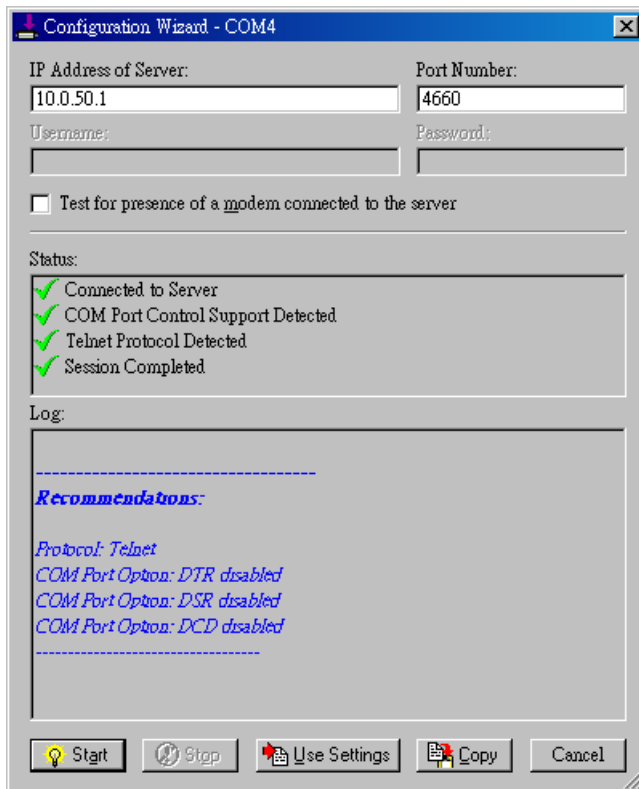

Fig. 39. Configuration Wizard
Serial/IP COM port can be changed as follows:(Fig. 39)
5. Click the **Configuration Wizard** button and then click the **Start** button that shall appear on the wizard window. This step verifies that the Virtual COM Redirector communicates with the serial server. If **Log** display does not show errors, click **Use Settings**, return to the Control Panel (Fig. 39)